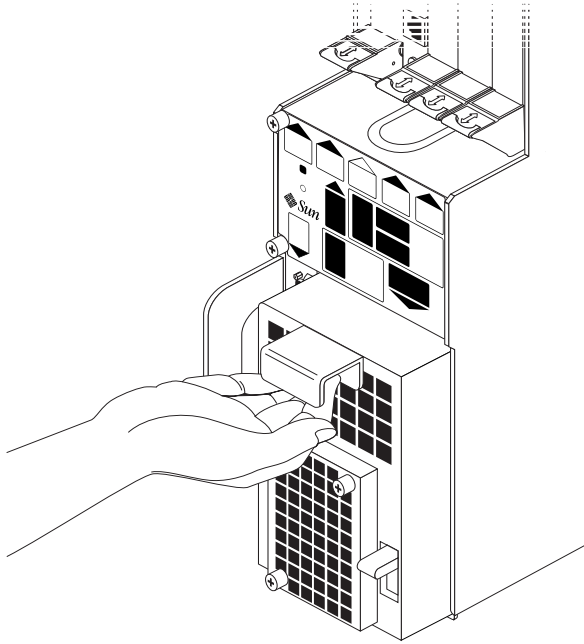

FIGURE 11-16 Removing a Power Supply Unit From a Netra ct 800 Server
- 5. Grasp the handle on the power supply unit (FIGURE 11-16), slide it out of the server and place it on the electrostatic discharge mat.**